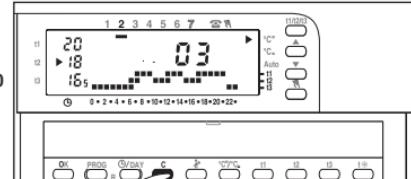

Fig. 40
- To display the operating time during the 24 hours of the previous day: press **C** and the requested number of hours will appear on the display (Fig. 40).